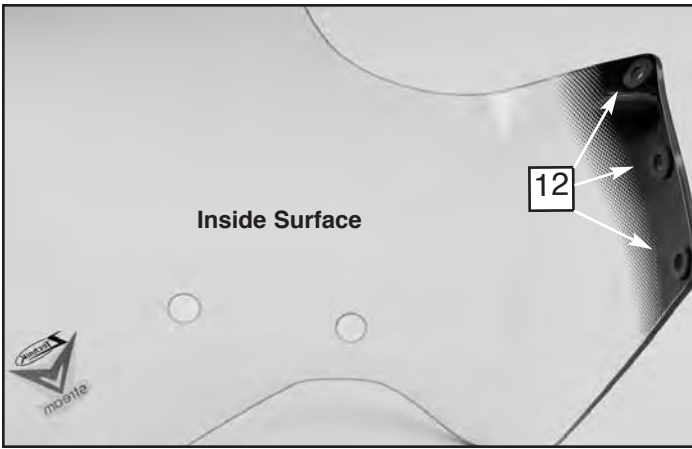

Figure 10
4. To the **inside** of the **windscreen** install one Poron Washer (12) around each hole where the Side Deflector will mount. **Figure 10**